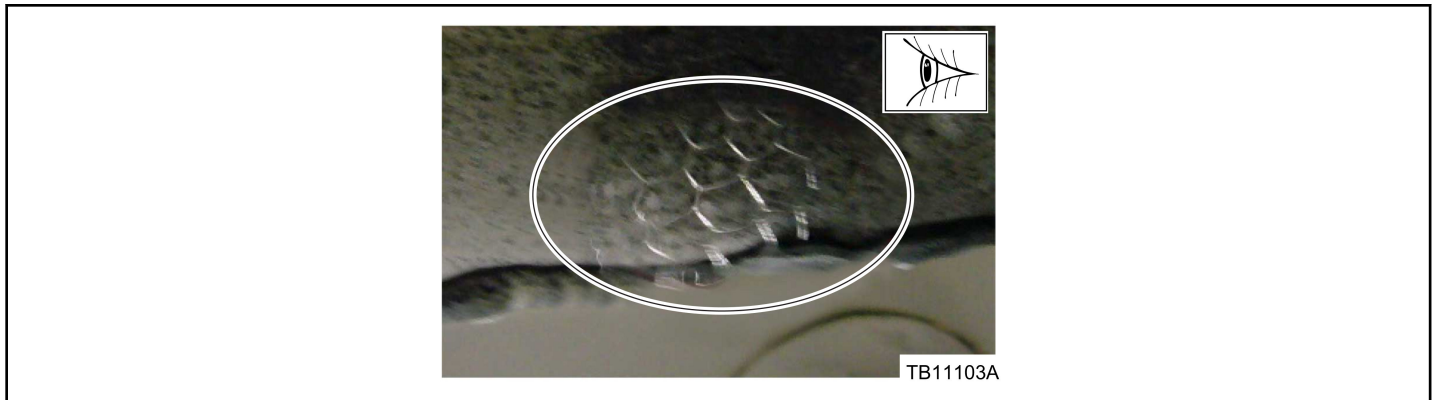

Figure 35 - Article 17-0044
- (1) Underbody seams
- (2) Rear decklid seals
- (3) Underbody rubber grommet
- (4) Side panel glass seals
- (5) Rear wheel well seams
- (6) Rear tail light seams
- (7) License plate area
26. Air leaks can be identified by the presence of air bubbles. (Figure 35)